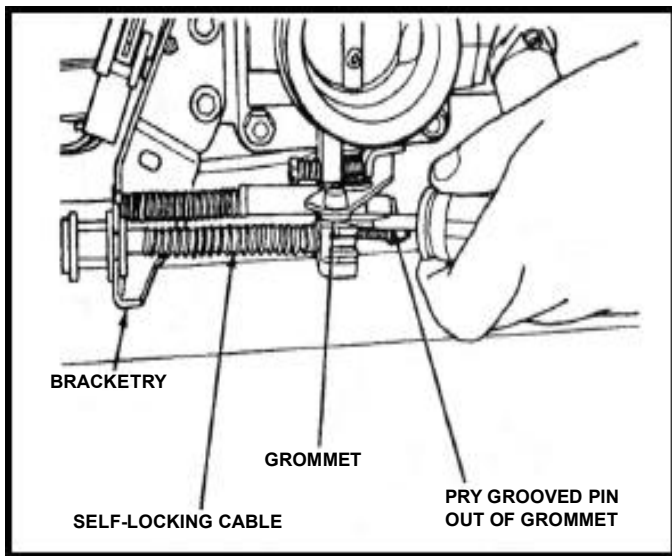

FIGURE 13
6.2 Using a wide-blade screwdriver, pry grooved pin on cable assembly out of grommet on throttle body lever. (See Fig. 13).